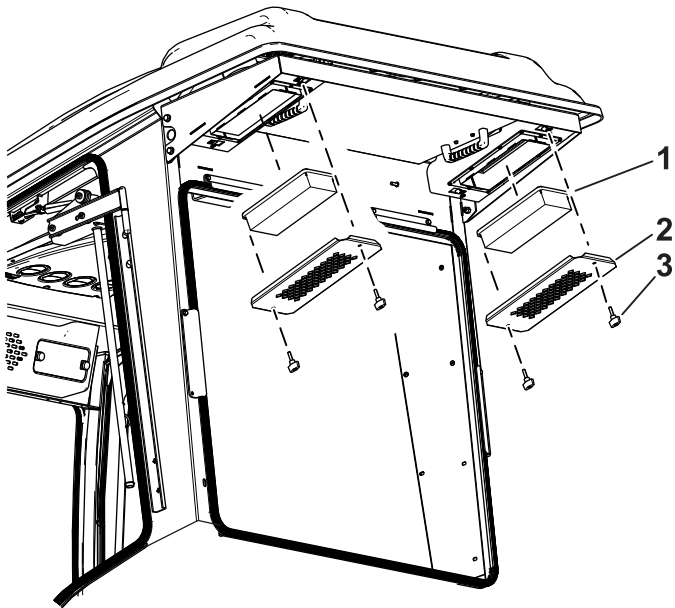

Figure 34
1. Remove the thumb screws and the grates from the rear cab air filters (Figure 34).